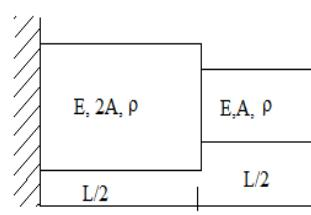

Figure 2
- 4 Evaluate Eigen values & Eigen vector for stepped bar shown in figure 2 when it is subjected to axial vibration, with fixed free end condition as shown. Draw mode shapes